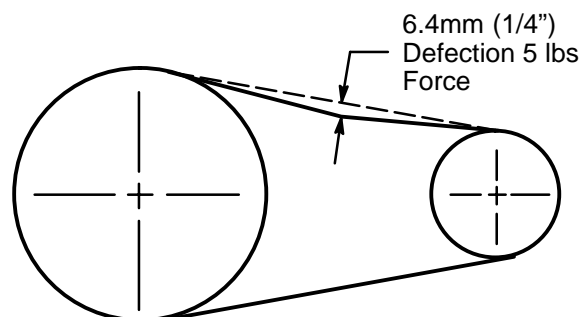
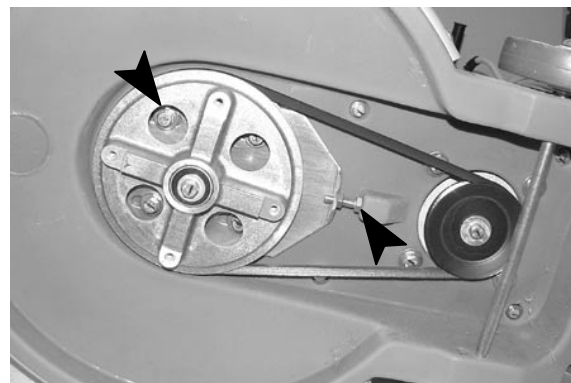

FIG. 7
FIG. 8
- Once a month, check the tension of the drive belt. At mid-point of belt, the belt tension should have a 6.4mm (1/4") deflection at 5 lbs of force (Figure 7). To tighten belt, remove the pad driver and loosen the (4) pad driver pulley bracket hex head screws. Loosen the jam nut on the tension bolt and turn bolt clockwise until belt is properly adjusted, then retighten the pulley bracket screws and jam nut (Figure 8).